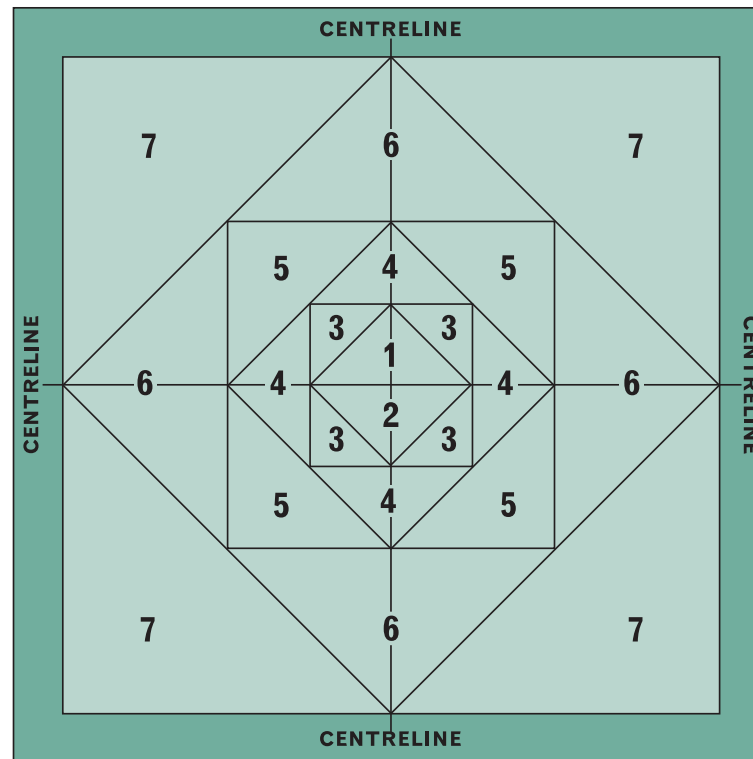

Figure 14 Floor layout
C. Repeat this sequence on the opposite side of the centreline shown as area 2 in Figure 14. Continue working in larger and larger pyramids, as shown in Figure 14, until only the perimeter tiles require fitting.